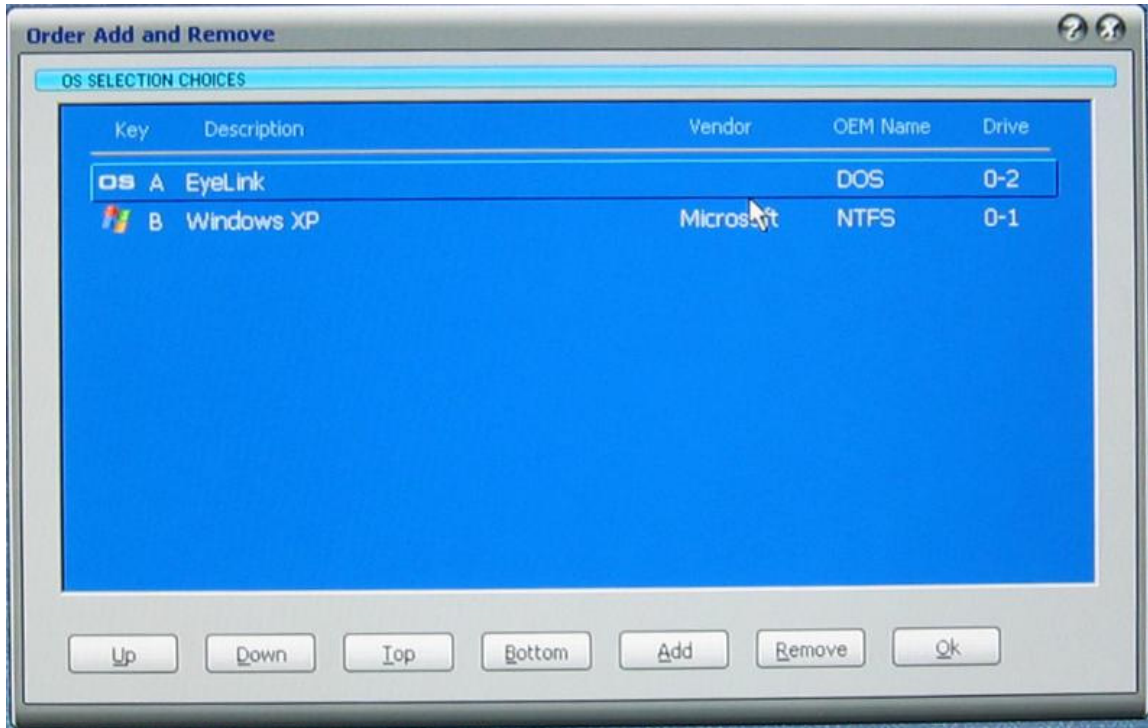

Figure 4-16 Remove Items
7. From the 'Order Add and Remove' window, remove all icons except for the Windows XP and EyeLink by highlighting each one and clicking the 'Remove' button as illustrated in Figure 4-16.